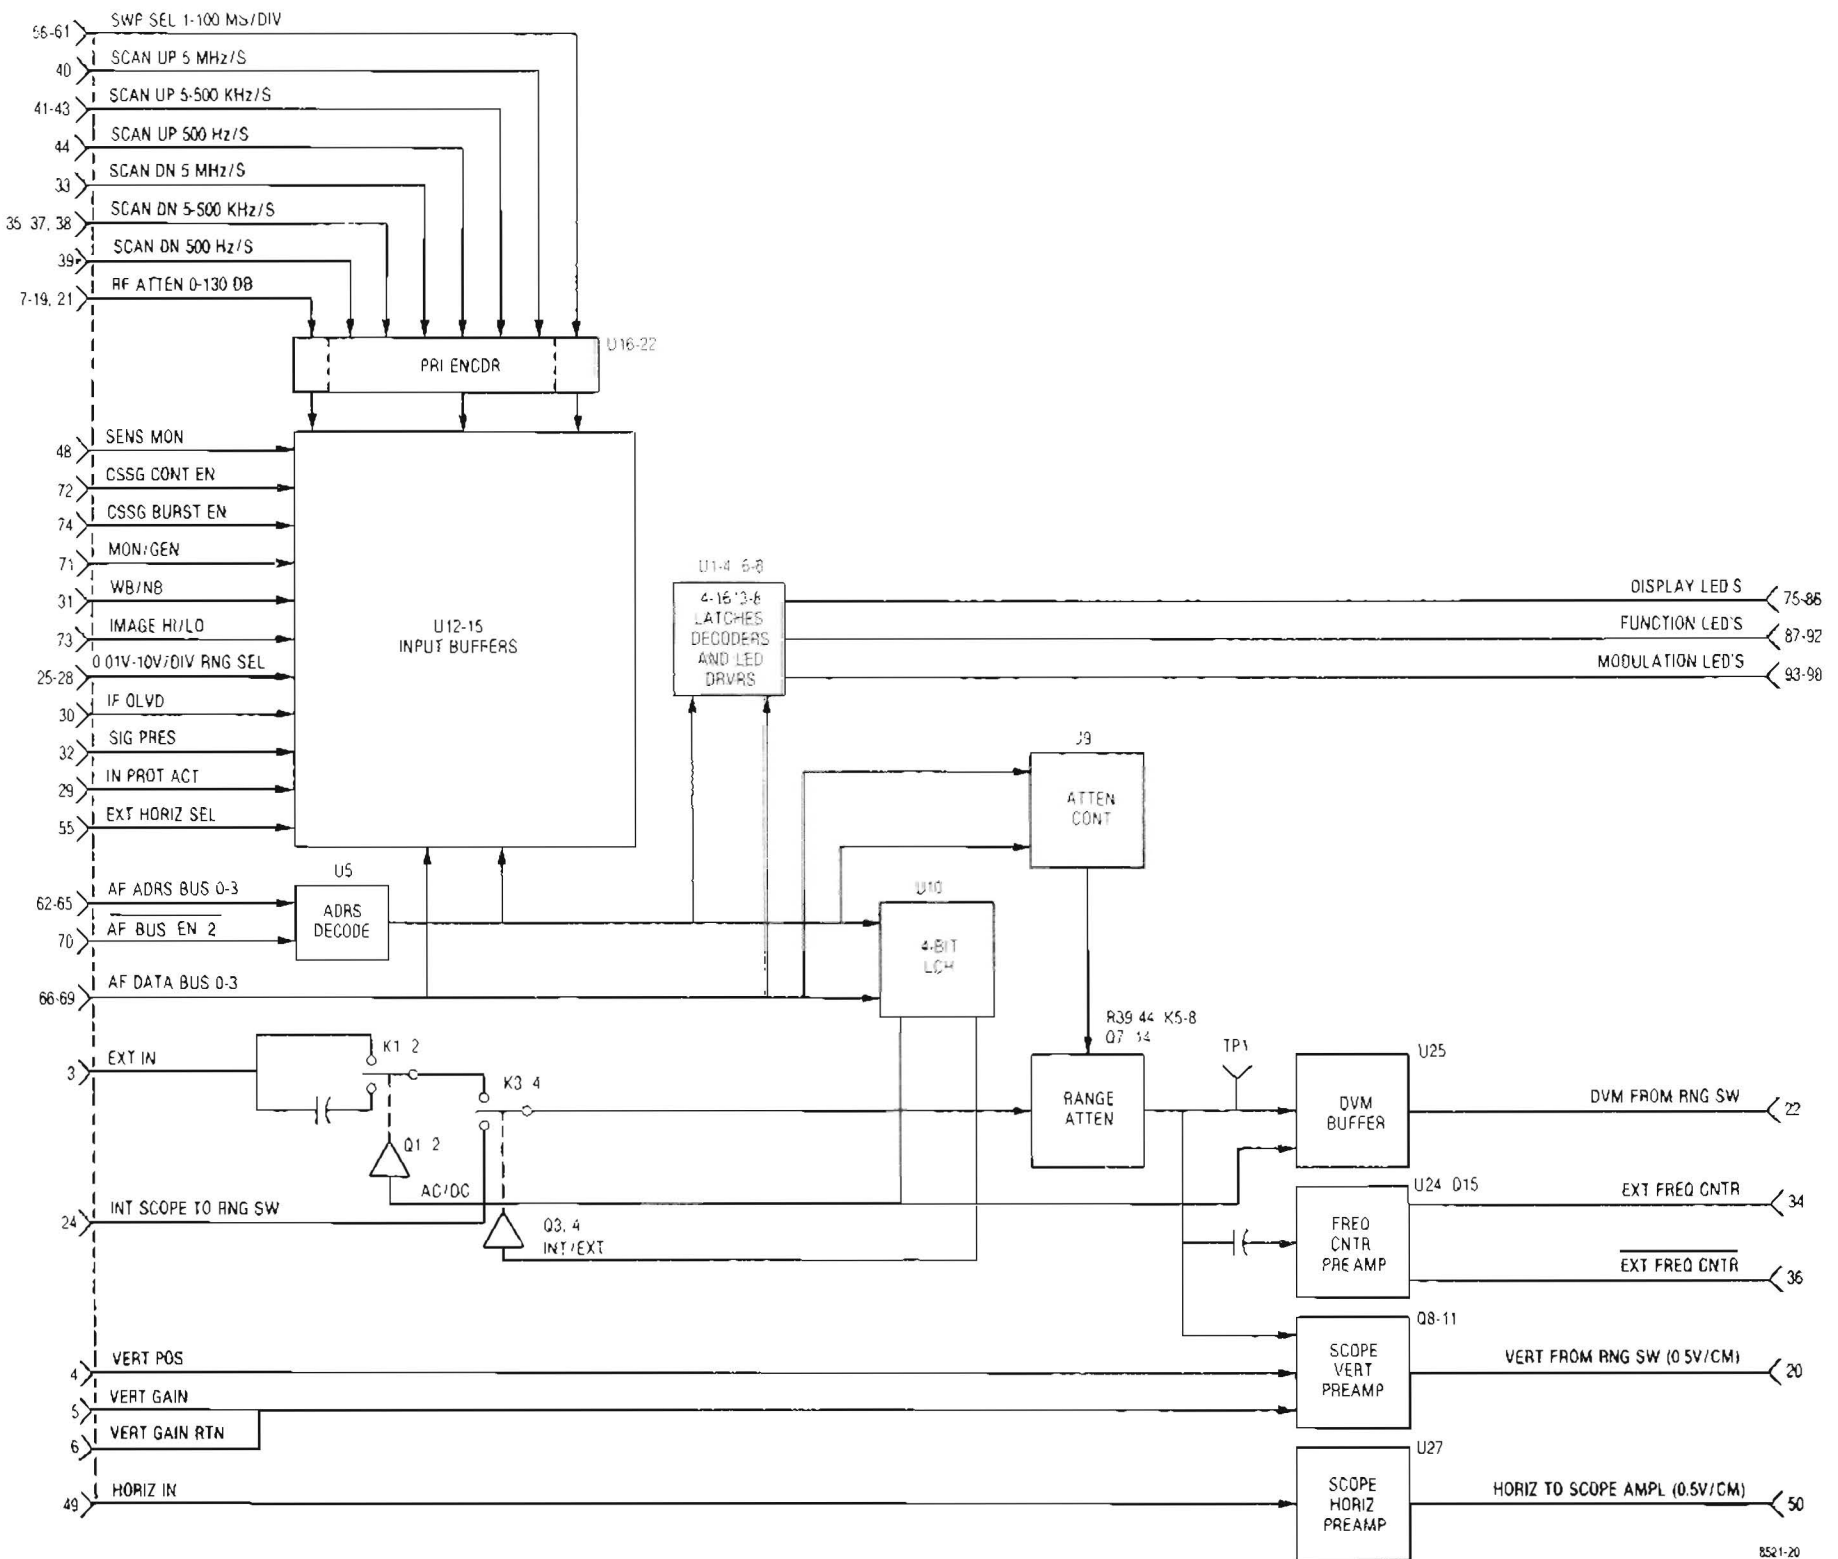

Figure 18-1. Front Panel Interface Module A12 Block Diagram
**18-1. General.** Input buffers and output latches for front panel control and display interface to the processor are contained on the Front Panel Interface Module. Buffering and ranging circuits for the external scope vertical, SINAD, DVM, Frequency Counter, and external scope horizontal inputs is also contained on this module. A block diagram of the Front Panel Interface Module is shown in figure 18-1 with its schematic shown in figure 18-2.